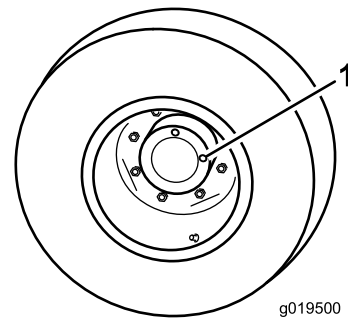

Figure 73
1. With the machine on a level surface, position the wheel so that one check plug (Figure 73) is at the 12 o'clock position and the other is at 3 o'clock position.
2. Remove the plug at the 3 o'clock position (Figure 73). Oil level should be within 6 mm (1/4 inch) of the check plug hole.